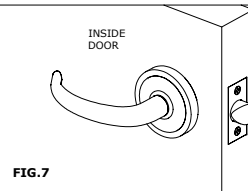

FIG. 7
**STEP 6)** THE SET PROPERLY INSTALLED SHOULD CORRESPOND TO FIGURE 7.